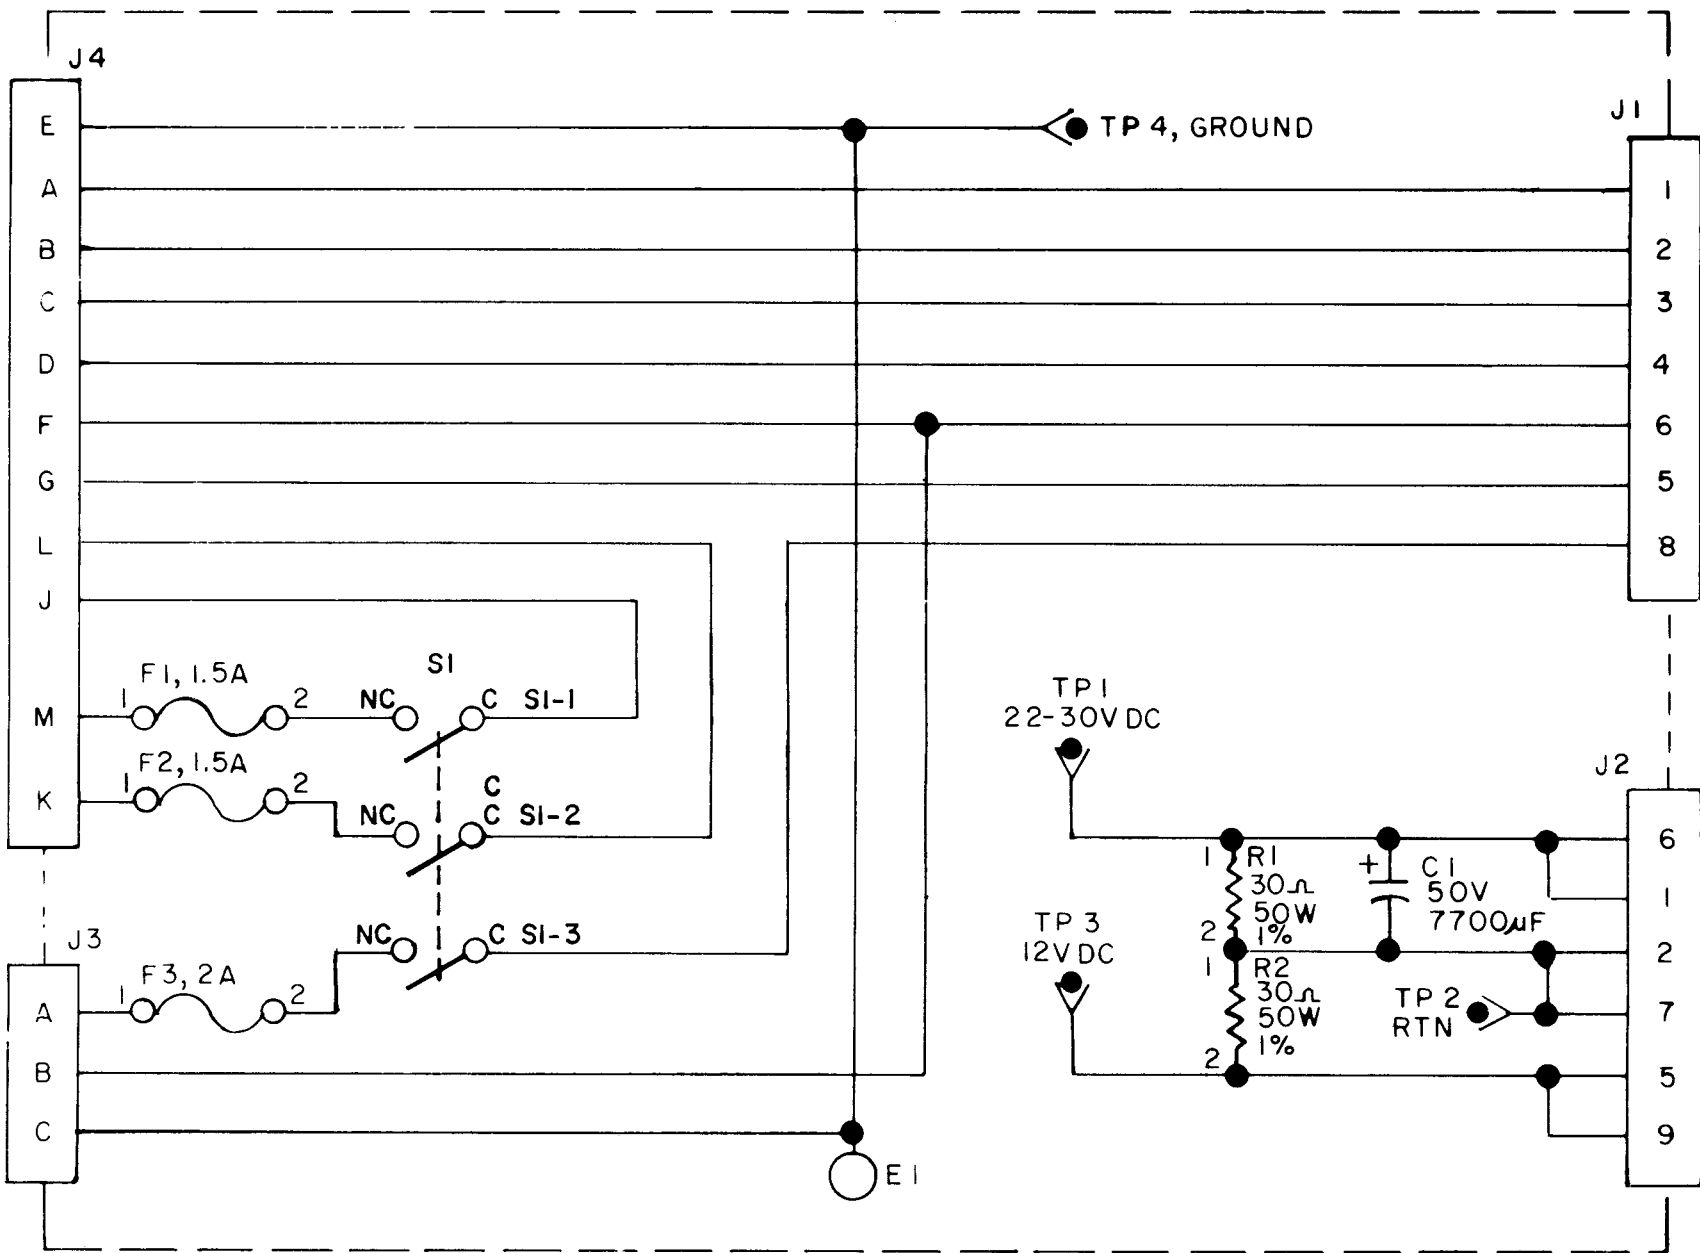

Figure 6-39. FILTER ASSEMBLY TEST FIXTURE, SCHEMATIC DIAGRAM.
A. FILTER ASSEMBLY TEST FIXTURE TEST PROCEDURES (fig. 6-39)